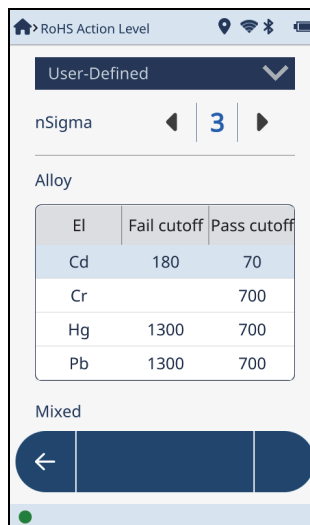

Figure 2-85 RoHS Action Level screen
- ◆ Tap the **RoHS Action Level** button () [either in the **Menu Tray** or on the **Live View** screen, if available] to display the **RoHS Action Level** screen (see Figure 2-85 on page 97).